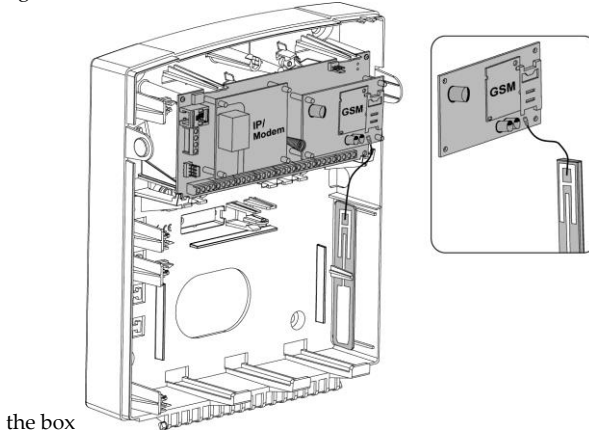

Figure 2-10 Placing the GSM module and antenna
4. Ensure the antenna is attached onto its connector on the GSM module, and then slide the antenna into place on the box / enclosure housing according to the instructions packaged with the specific box / enclosure being used (one example is illustrated below in Figure 2-10):